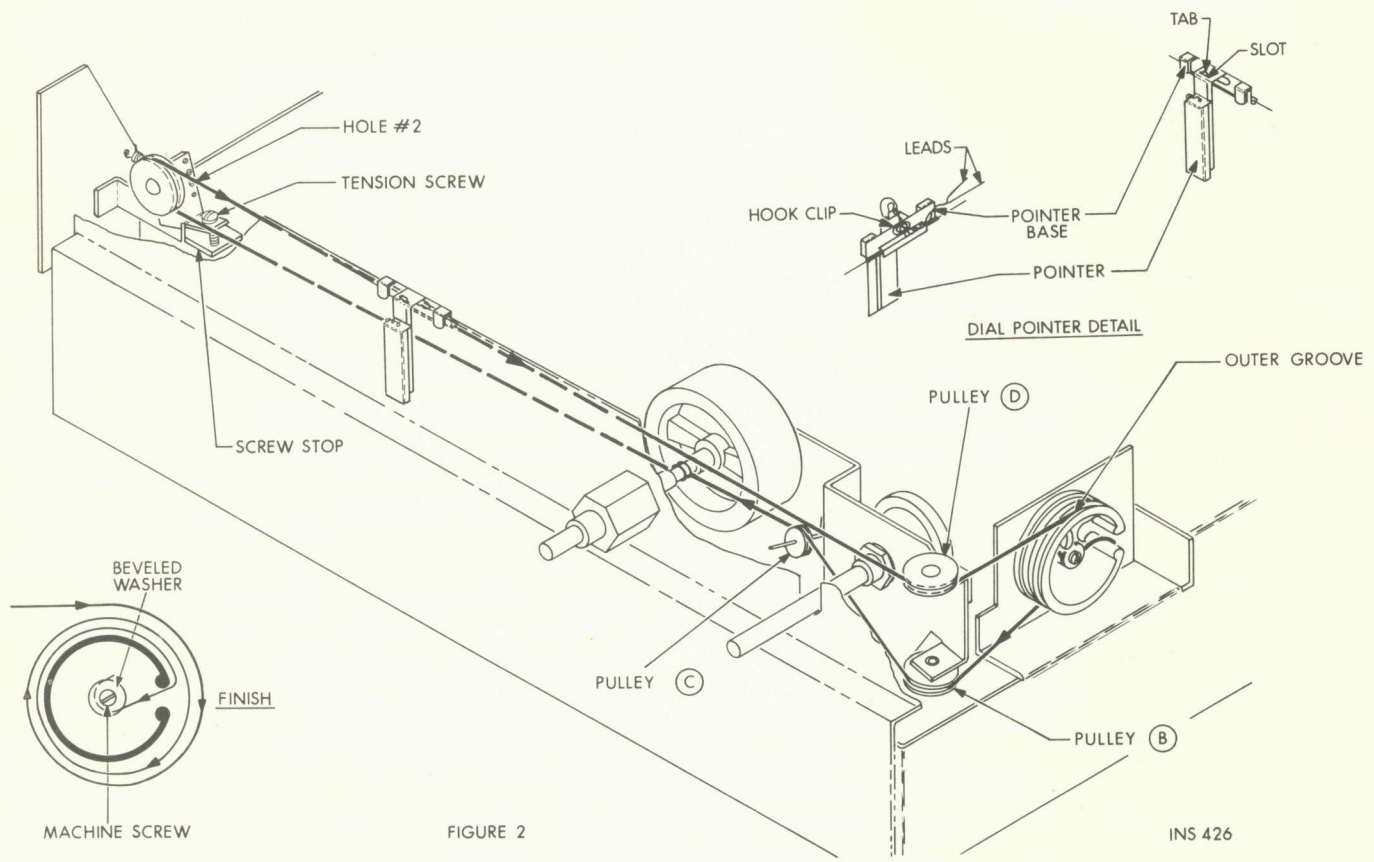

FIGURE 2
- Run the dial cord around pulley A (Figure 2). Attach the tension spring to hole 2 in the pulley mounting bracket. Turn the tension screw to its maximum clockwise in position.